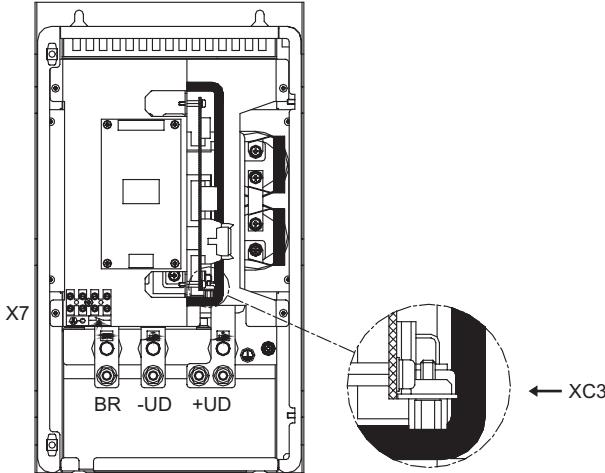

Figure 6: Location of the connectors
- Step 6** Connect the interconnection cable to connector XC3 (figure 6) on the CRG4 board of the braking module. Attach the other cable end to the Db9 connector, which is fastened to the metallic support in the side of the CFW-09 control board, see figure 8;